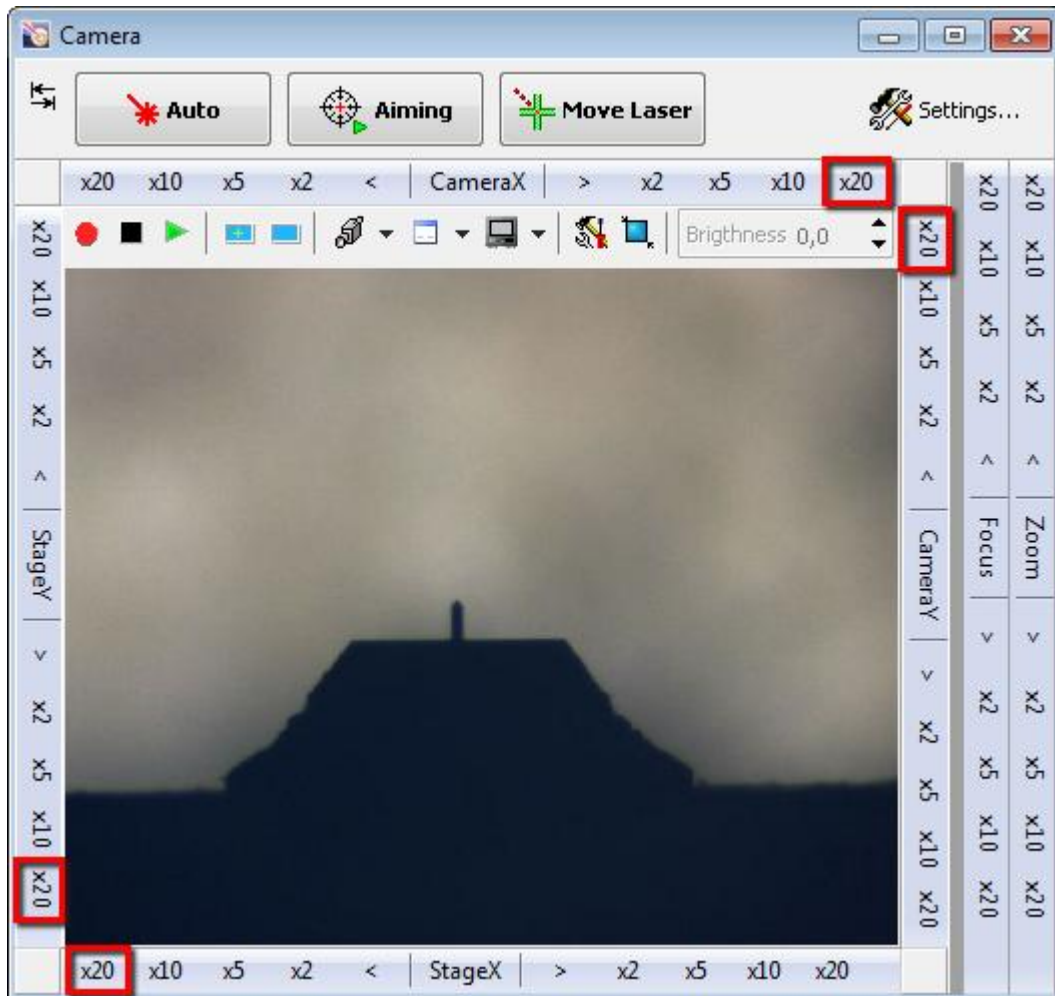

Fig. 2-1. **Camera**
1. Open the **Camera** window (Fig. 2-1).
2. Move the scanner carriage to the farthest right corner using controls in the panels **StageY** and **StageX** (see Fig. 2-1).
3. Move the videomicroscope carriage to the farthest right corner using controls in the panels **CameraY** and **CameraX** (see Fig. 2-1).